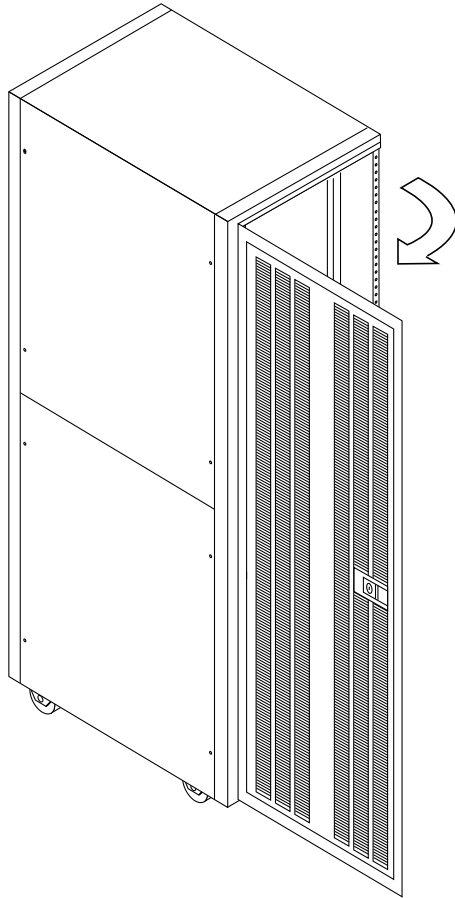

FIGURE 2-2 Opening the Rear Door of the Expansion Cabinet
2. Open the rear door of the expansion cabinet (FIGURE 2-2).
1. Open the rear door (FIGURE 2-2).